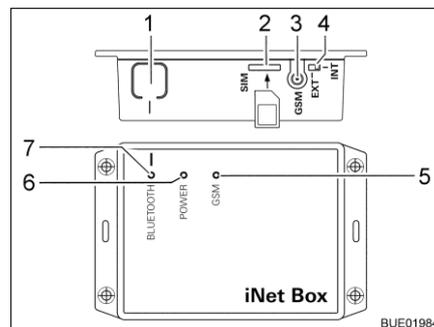

Fig. 233 Truma iNet-Box
- Press the BLUETOOTH button (Fig. 233,1) on the iNet-Box for 1 second. The Truma iNet-Box will be visible in the mobile terminal for approx. 2 minutes (name: "Truma iNet-Box"). During this period, the blue BLUETOOTH LED (Fig. 233,7) will be flashing.
- Carefully insert the mini SIM card with own telephone number and sufficient credit into the slot (Fig. 233,2) of the Truma iNet-Box as shown until it engages. The red GSM LED (Fig. 233,5) must be flashing continuously. If the red LED goes out after 20 seconds: Check mini SIM card.